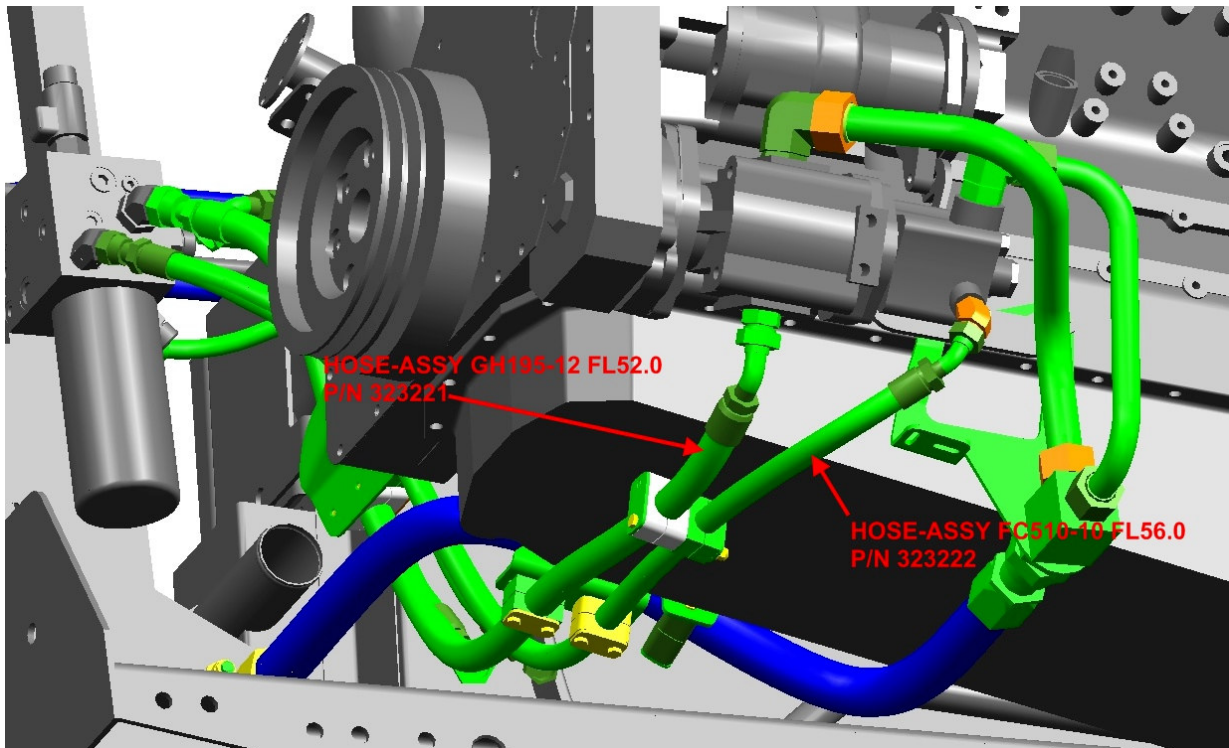

Fig. 2: New Hydraulic Hose Installation
- 5. The two-piece tube/hose hydraulic line will be replaced by a one-piece hose assy. Install new hydraulic lines as shown in Fig. 2 below.
6. Install new Hose-Assy FC510-10 FL 56.0 P/N 323222 from P/S pump to the 45 deg. Elbow on the hydraulic reservoir manifold (SP). Use the supplied clamping hardware and some hardware from step 3 to secure the hose as shown in Fig. 2.
7. Install new Hose-Assy gh195-12 FL 52.0 P/N 323221 from hydraulic fan pump to the 45 deg. Elbow on the hydraulic reservoir manifold (FP). Use the supplied clamping hardware and some hardware from step 3 to secure the hose as shown in Fig. 2.